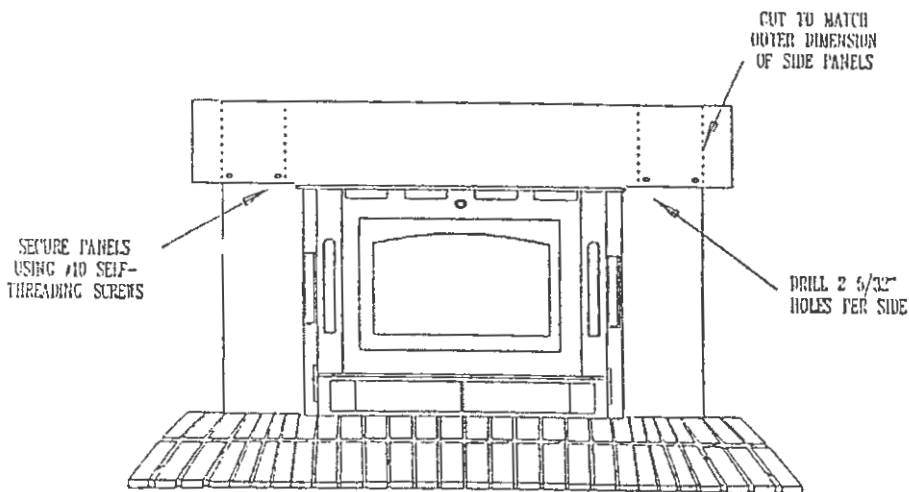

FIGURE 7
NOTE: For short depth (17" to 19 $\frac{1}{2}$ ") see Figure 7.
- 2) Drill two (2) 5/32" holes through each side of the top and side panels as shown in Figure 7 below.